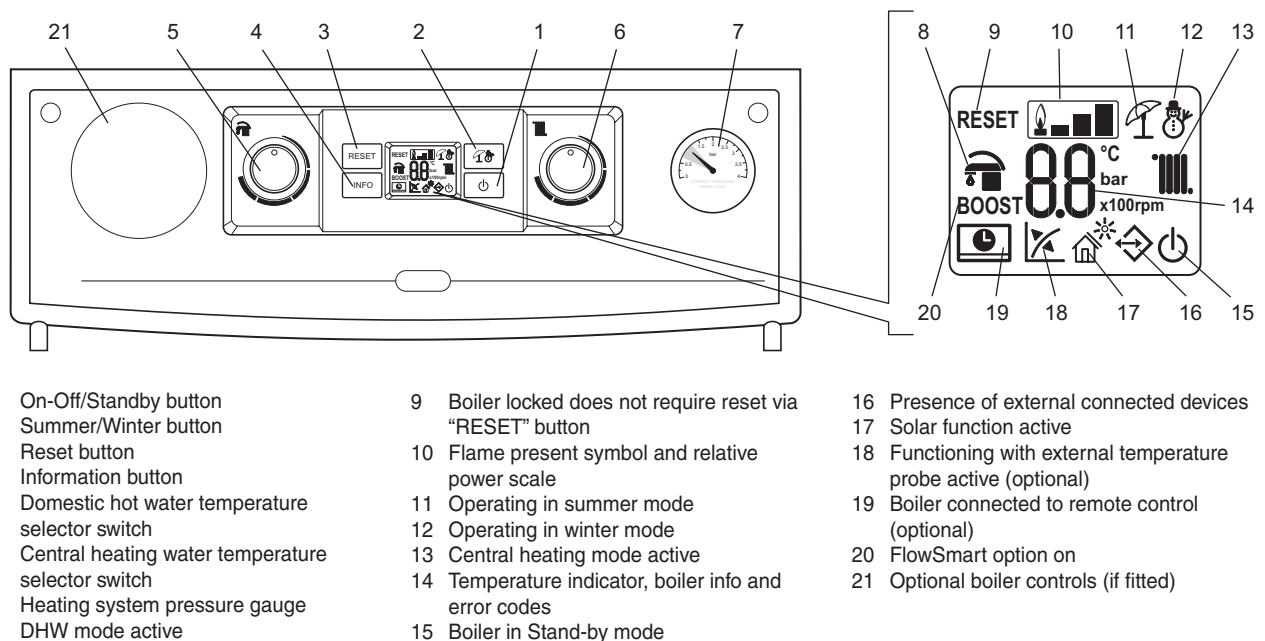

Fig. 5.1
5.2 BOILER CONTROLS - Fig. 5.1
5.4 INITIAL LIGHTING - Refer to Fig. 5.1
When the electricity supply is turned on, the boiler will automatically go through a system purging cycle for 8 minutes counting down from 96 on the display. This can be interrupted by pressing the RESET button (item 3 in Fig. 5.1). It is recommended that this cycle is allowed to complete when first lighting the boiler to help remove air from the system. After this the boiler will be in either Standby or On mode, the On-Off/Standby button (item 1 in Fig. 5.1) is used to scroll between these modes or press and hold it in to turn the boiler off.
5. Press the Summer/Winter button (item 2 in Fig. 5.1) to select either summer (☀) or winter (❄) mode.
Summer (☀): In this mode the boiler will only fire when hot water is requested through opening a hot water outlet tap and the heating will not function even if requested by any controls. The desired hot water temperature can be set using the hot water selector switch (item 5 in Fig. 5.1) on the control panel, when the tap is open the display will indicate the actual primary flow temperature (item 14 in Fig. 5.1).
Winter (❄): In this mode the boiler will function in heating and hot water depending on the request from any controls fitted. The boiler will always prioritise hot water when any hot outlet tap is opened. The heating will activate depending on the request from any external controls fitted. The domestic hot water (item 5 in Fig. 5.1) and central heating (item 6 in Fig. 5.1) selector switches on the control panel can then be turned to the required set temperatures shown on the display. The display will then display the actual primary flow temperature (item 14 in Fig. 5.1) when operating in heating or hot water.
Each time the burner ignites, the flame present symbol (item 10 in Fig. 5.1) is displayed together with the relative strength of the flame.
By pressing the info button (item 4 in Fig. 5.1) the information menu is accessed, this will then show the information according to the table below.